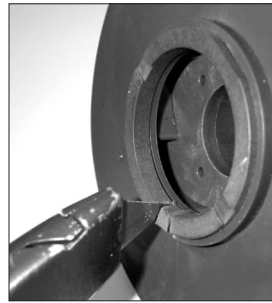

Figure 23
1. The thrust ring (item 8A) is held in-place with a snap fit with a ridge. Using a razor, knife, or side cutters, cut a notch out of the thrust ring. Pull ring up and out of the holder. See figures 23 & 24.